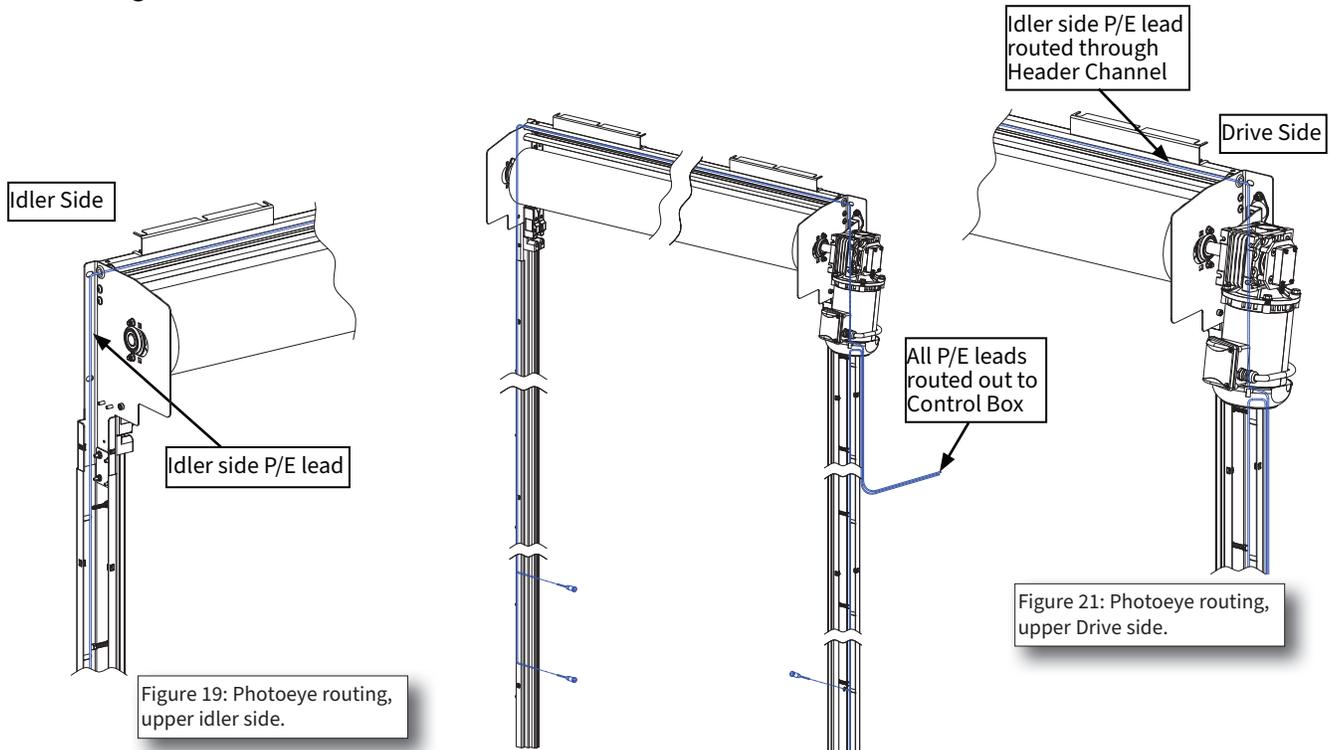

Figure 19: Photoeye routing, upper idler side.
2. Route P/E leads on idler side up through Face Frame channel, through grommet in idler side Header Plate, and through Header Channel to drive side of Header. Use the provided string to pull the wires through the gasket channel. Route leads around Drive, and down the outside of drive side Face Frame to Control Box (Figure 19).